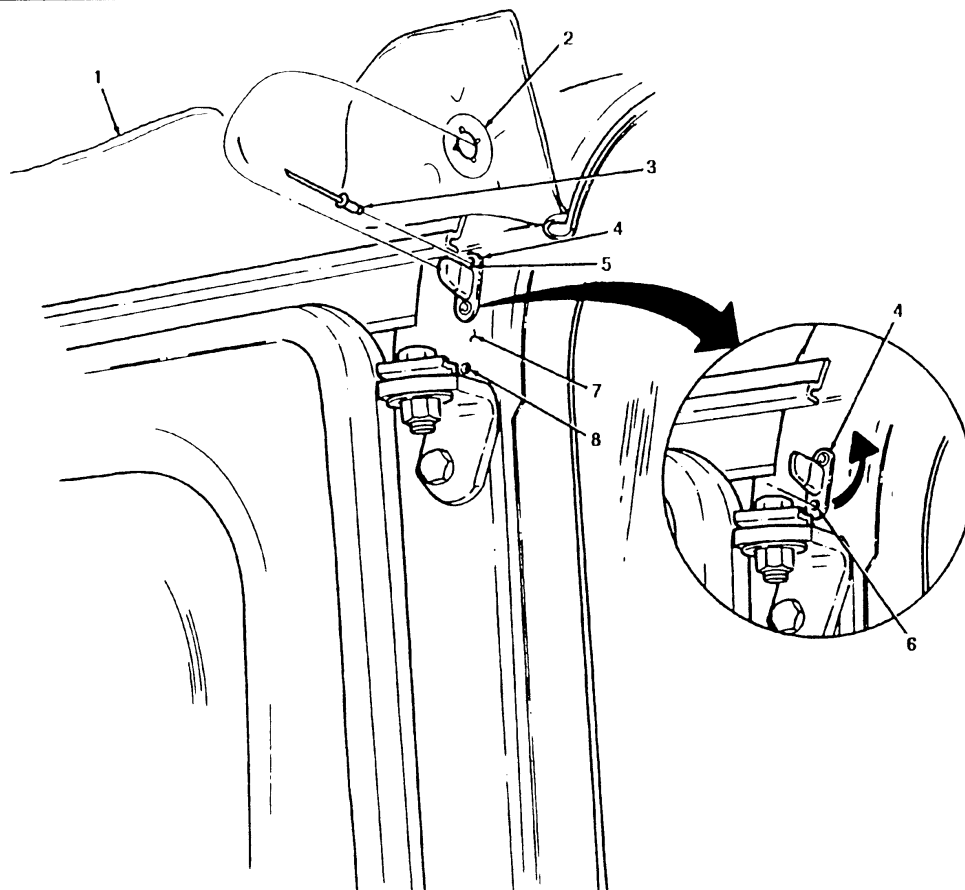

FIGURE 3-4
1. Move eyelet (2) and top cover (1) to gain access to "A" pillar (7). (see figure 3-4)
2. Using 0.125-inch diameter drill, remove bottom rivet (6) securing turn-button (4) to "A" pillar (7).
3. Rotate turn-button (4) 180 degrees.
4. Using turnbutton (4) as a template, locate, mark, and drill 0.1285-inch diameter hole (5) in "A" pillar (7). (see figure 3-4)
5. Install NSN 5320-01-023-2529 rivet (3) In turnbutton (4) and "A" pillar (7).
6. Install NSN 5320-01-023-2529 rivet (3) in existing hole (8) under turnbutton (4) and "A" pillar (7).
8. Secure top cover (1) on "A" pillar (7) with turnbutton (4).